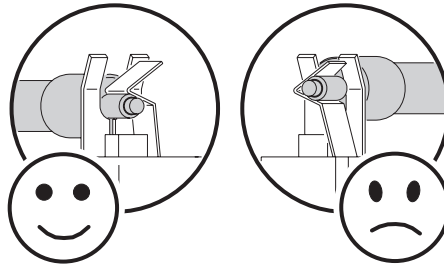

Figure 5: Lamp terminals
- Make sure that the terminals on the lamp sit below the V-section in the lampholder clips and not in the V-section itself, as shown in Figure 5.